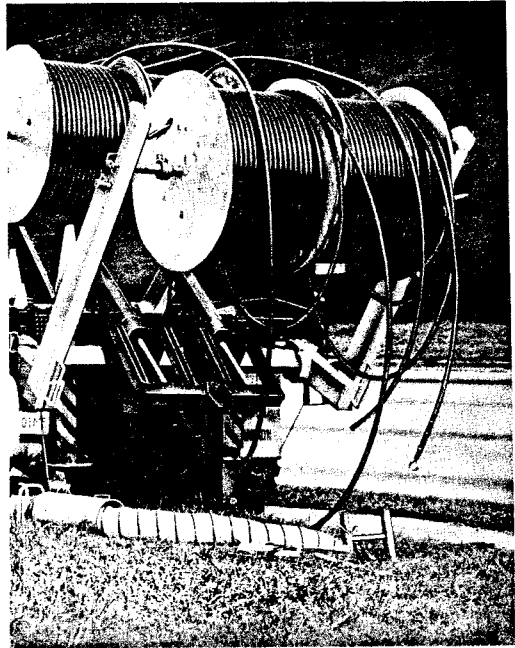

Fig. 1—Setup for Reel Handling at Feed Manhole
**4.02** The various types of equipment normally used at the feed manhole for placing cable can be used for placing innerduct. When multiple innerducts are to be placed, a flatbed trailer or semitrailer with side or rear payout may be used, or a vehicle equipped with a reel lift and reel carrier capable of handling as many as four reels (Fig. 1) may be used. In any case, the equipment used must allow the innerducts to be fed freely into the manhole.